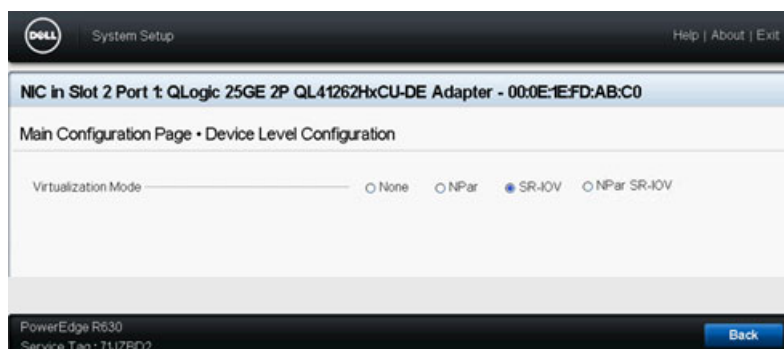

Figure 12-2. System Setup for SR-IOV: Device Level Configuration
5. On the Main Configuration Page - Device Level Configuration (Figure 12-2):